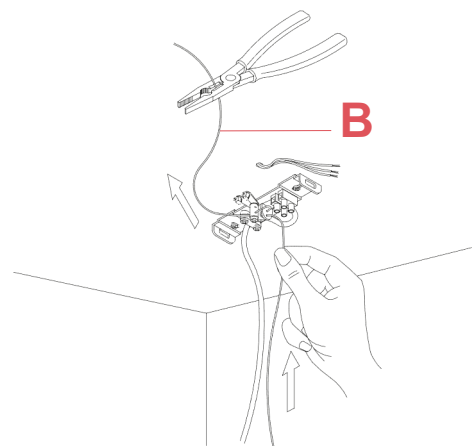

Fig.2
Cut the steel cable (B) at the desired height.(Fig.2)